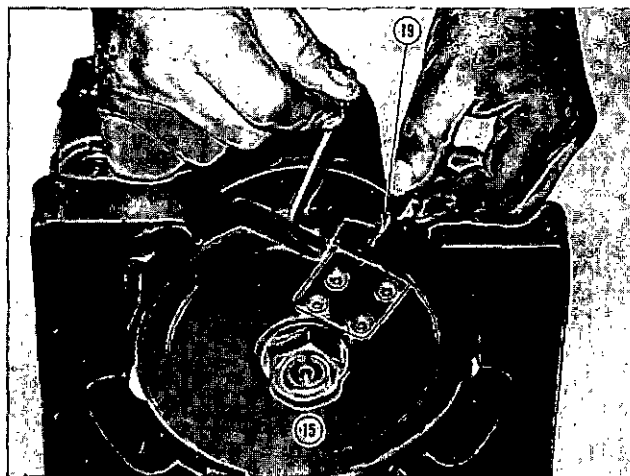

Fig. 1-16 (V40173). Remove The Cutting Tool.
1. Remove the cutting tool from the guide plate, Fig. 1-16.